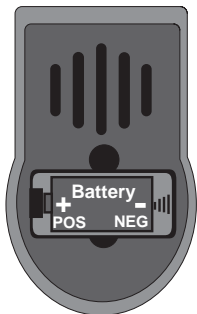

Fig. 80 - Battery Orientation
- Place a new 3.6 volt TADIRAN[®], model TL-2150, .95Ah, 1.0ma, Lithium battery, negative end first, into the battery compartment toward the spring, ensuring proper orientation of the positive (+) and negative (-) ends (Fig. 80).